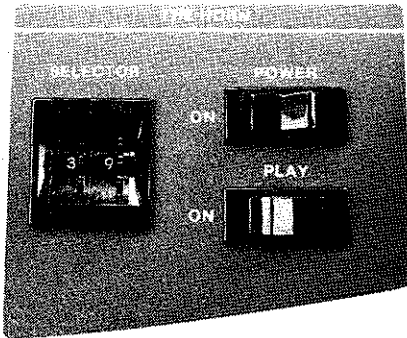

Figure 2-3. "The Horn".
- ㉙ **HEAT** Switch — To turn on the heater blower for the pilot's area press this switch to either the **HI**— or **LOW** position. Note that when the front heat switch (26) is **OFF**, the heat switches (25) and (28) can be used to provide cool air circulation by turning on the blowers.
- ㉛ **THE HORN**, Figure 2-3 — This corner of the dash has 3 different switches for use with the musical horn.